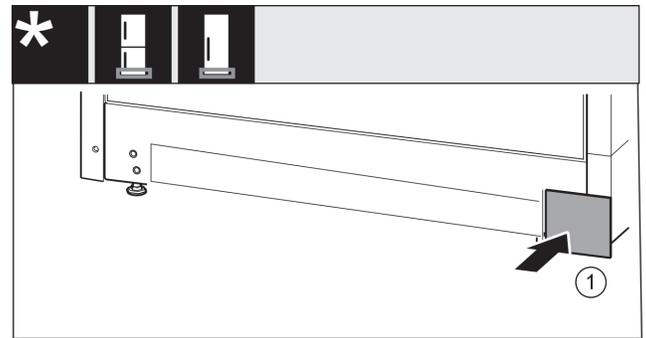

Fig. 18
- ▶ Put back the cover on the other side. Fig. 18 (1)